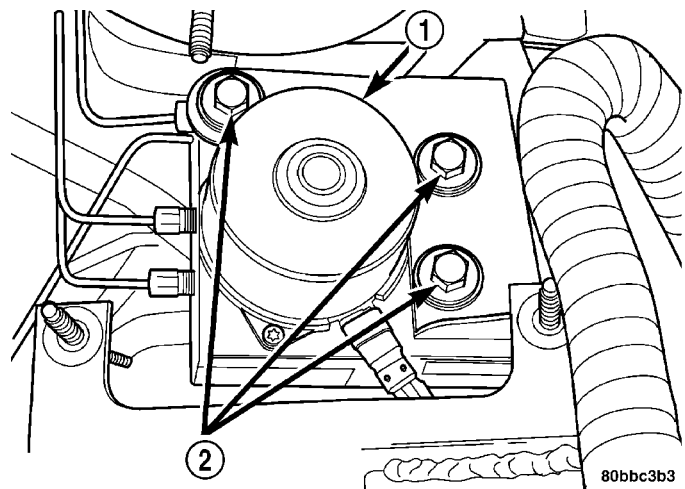

Fig. 20 ICU Mounting Bolts
(12) Remove the 3 bolts attaching the ICU to its mounting bracket. (Fig. 20).